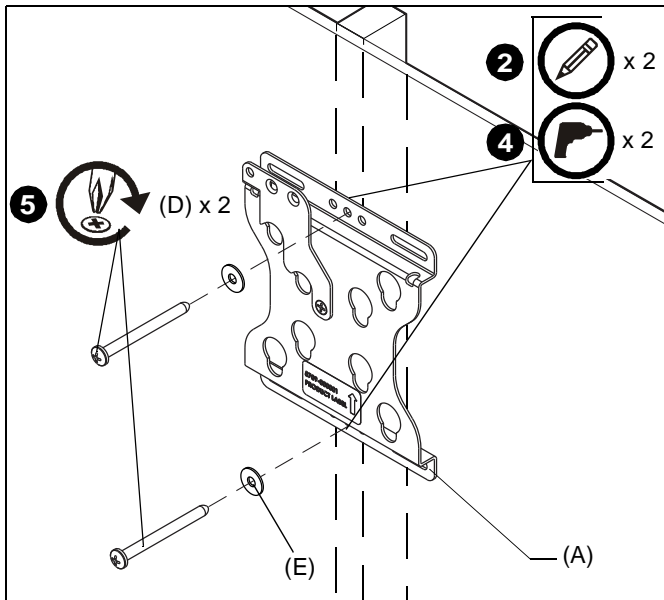

Figure 1
5. Fasten FSR1U/FSR100 assembly to wood stud using two #10 x 2-1/2" Phillips head screws (D) through two #10 washers (C), FSR1U/FSR100 assembly (A), and drywall (not shown) and install into pilot holes. (See Figure 1)